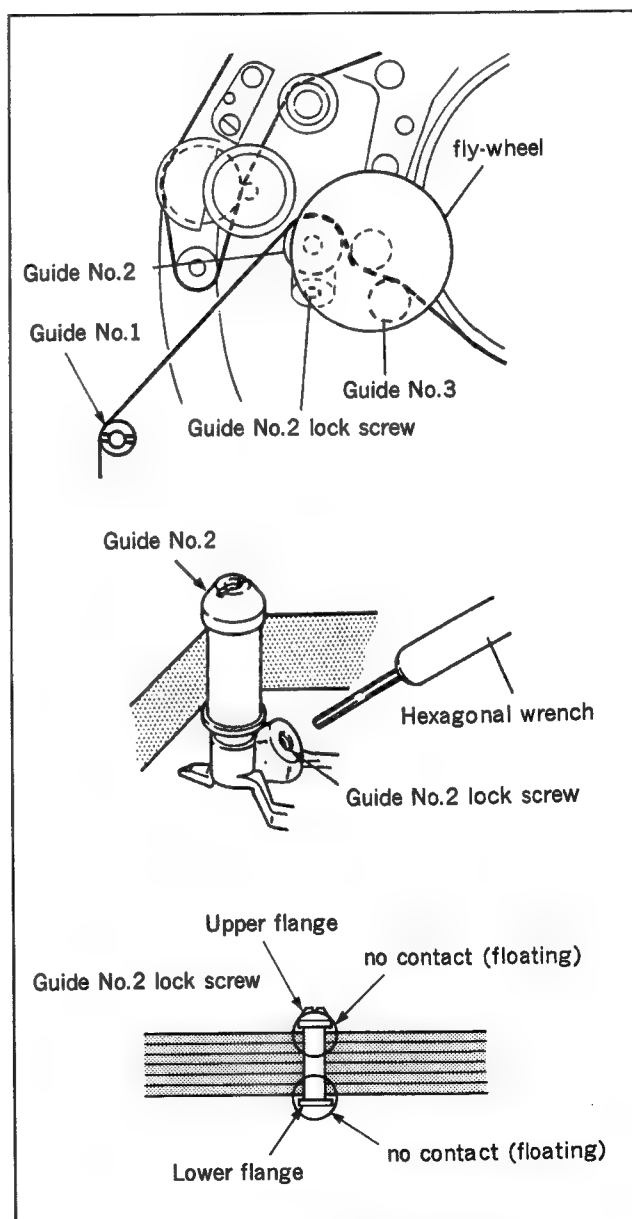

Fig. 6-2-1 Entrance side rough adjustment (1)
3. Rotate the guide No.2 counterclockwise so that tape does not contact with both upper flange and lower flange. (See Fig.6-2-1.)